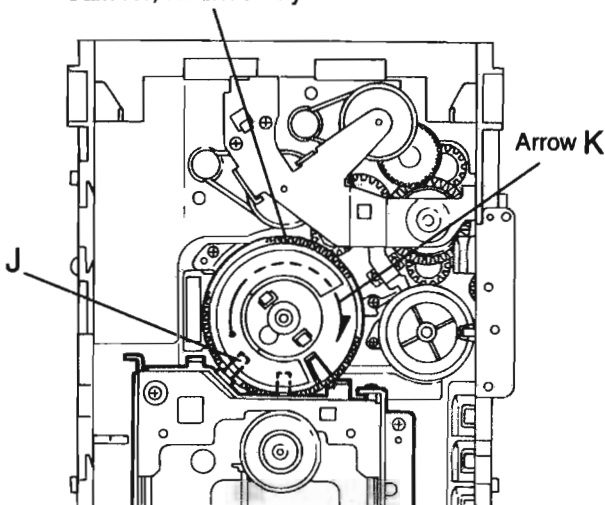

Fig.11
Removing the CD traverse mechanism (See Fig.11 and 12)
1. For dismounting only the CD traverse mechanism without removing the CD loading mechanism assembly, align the shaft "J" of the CD loading mechanism assembly to the position shown Fig.11 while turning the cam R1 and R2 assembly in the arrow direction "K" .